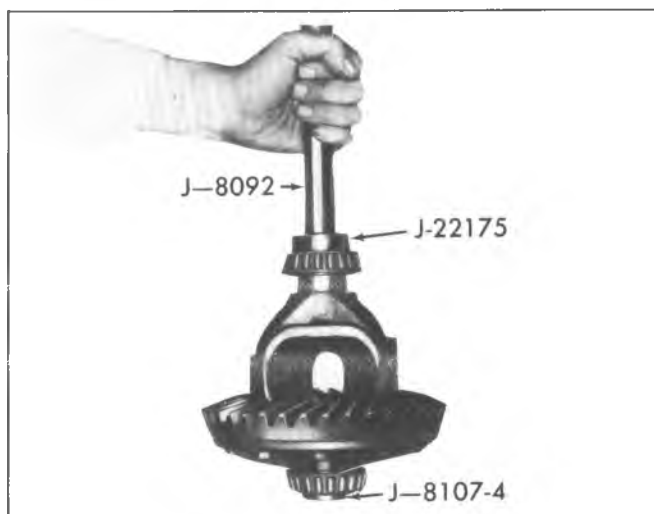

Fig. 4B-Differential Bearing Installation
3. Place new bearing on hub with thick side of inner race toward case and drive into place, using J-22175 for 8-7/8" or J-22761 for 8-1/2" ring gear and Driver Handle J-8092, as shown in figure 4B.
4. Before bearing installation on opposite hub, support differential case on Adapter Plug J-8107-4. This allows differential case to rest on adapter instead of bearing cage. See figure 4B. Install remaining bearing as instructed in step 3.